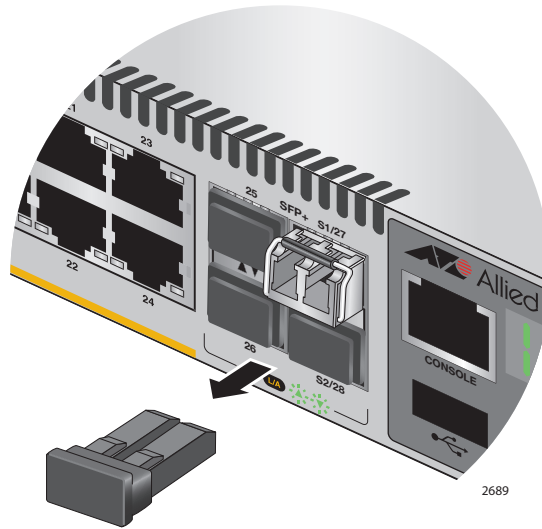

Figure 63. Removing the Dust Cover from a Stacking Transceiver
4. Remove the dust cover from the transceiver, as shown in Figure 63 on page 103.